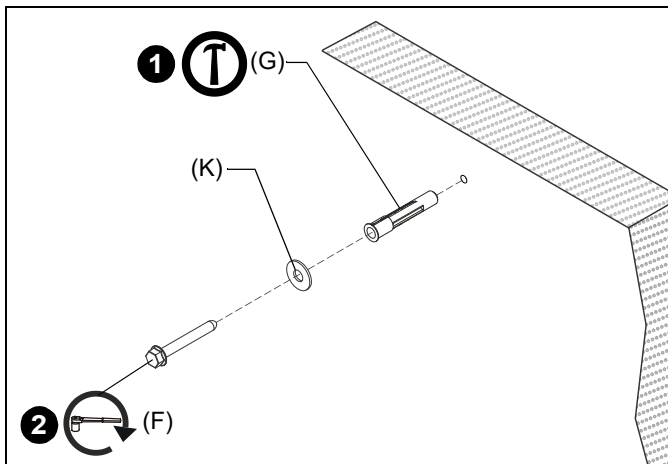

Figure 28
1. Install one UX10X60R anchor (G) into each pilot hole using a hammer, making sure that the anchor is flush with the wall. (See Figure 28)
2. Use one 5/16" x 2-1/2" hex flange head lag bolt (F) and one 5/16" washer (K) through product into each anchor in wall. (See Figure 28)